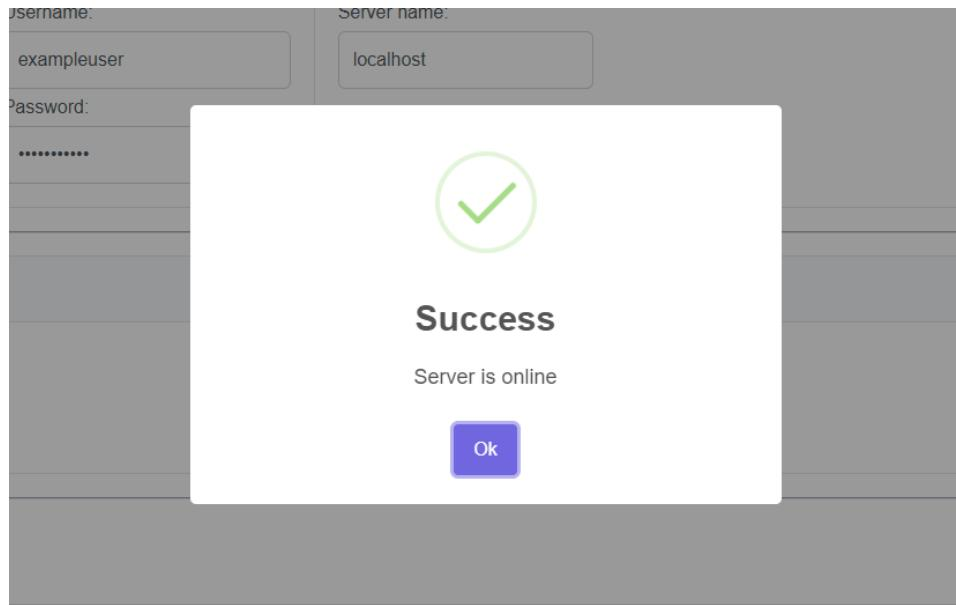
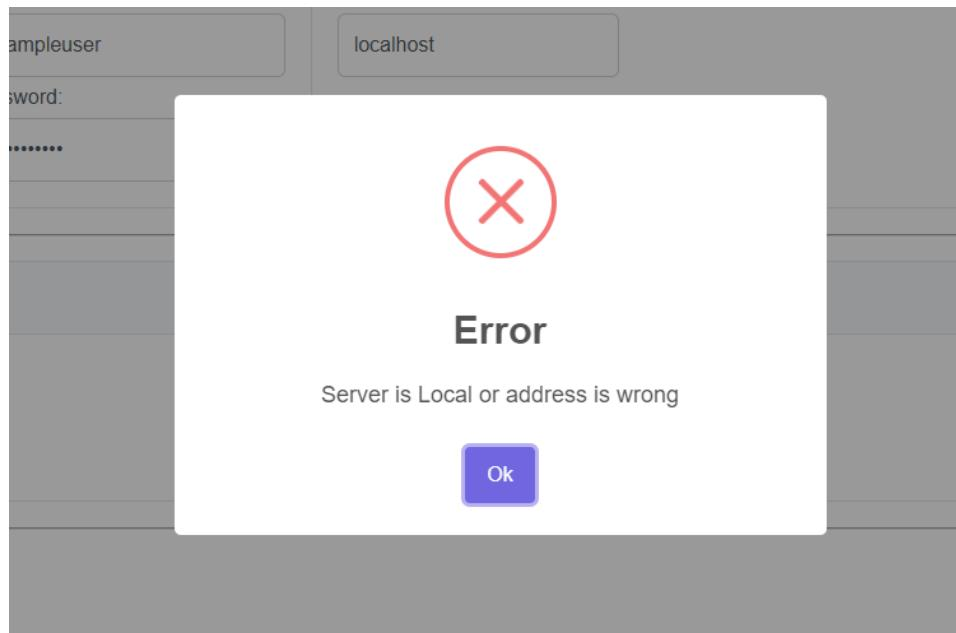

Figure 2: Successfully found server
Figure 3: Failed to find server
1. Step 1 is entering the server address. All types of addresses are supported (http,https). Once the address is entered, click the **Ping Server** as shown in figure 5. If the server is found, then the popup in Figure 2, otherwise an error is shown like in Figure 3.